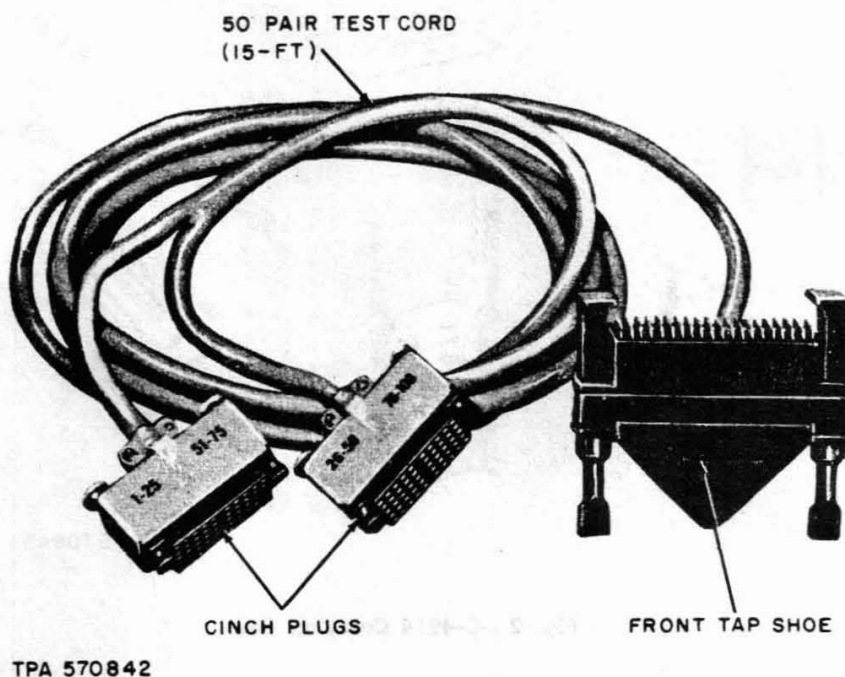

Fig. 1—Front Tap Shoe
2.01 C-4920 and C-4930 Multiple Pair Test Connectors (Fig. 1) consist of a plastic shell in which 100 gold-plated test pins are housed and connected internally to the jacketed 50-pair test cord. The